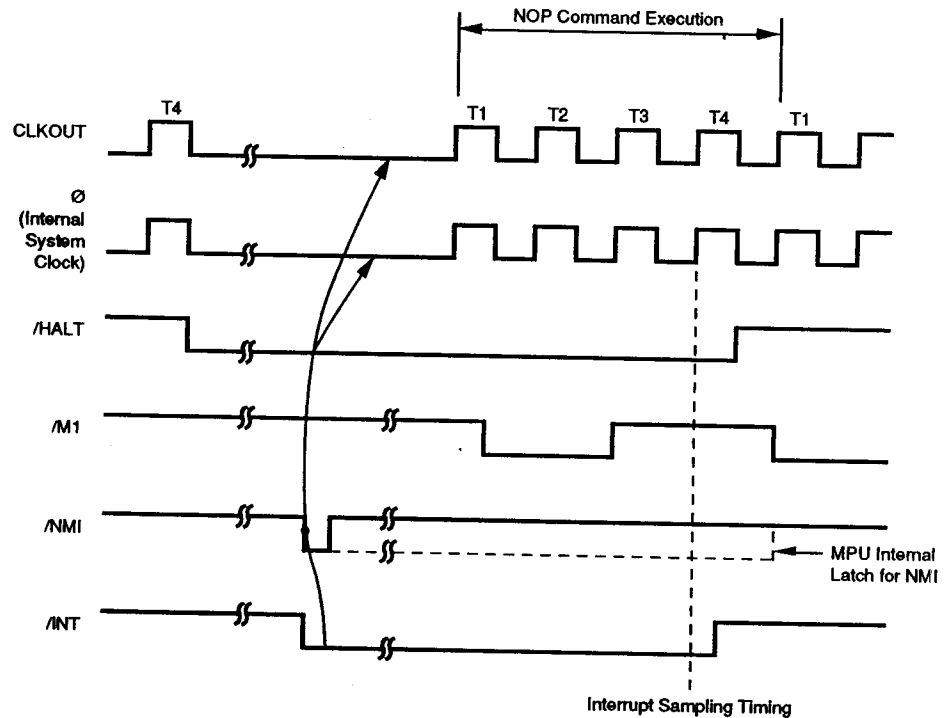

**Figure 39. Halt Release Operation Timing By Interrupt Request Signal in STOP Mode**
**Halt release in STOP Mode (HALTM=10) by interrupt.** The halt release operation by interrupt signal in STOP Mode is shown in Figure 39.